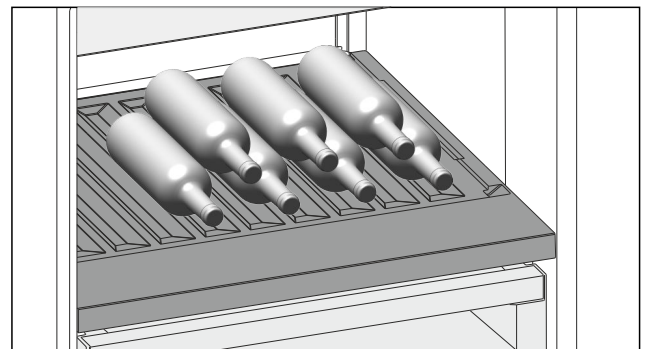

Fig. 135
- Place bottles in the back row with their bases against the back wall. (see *Fig. 135*)